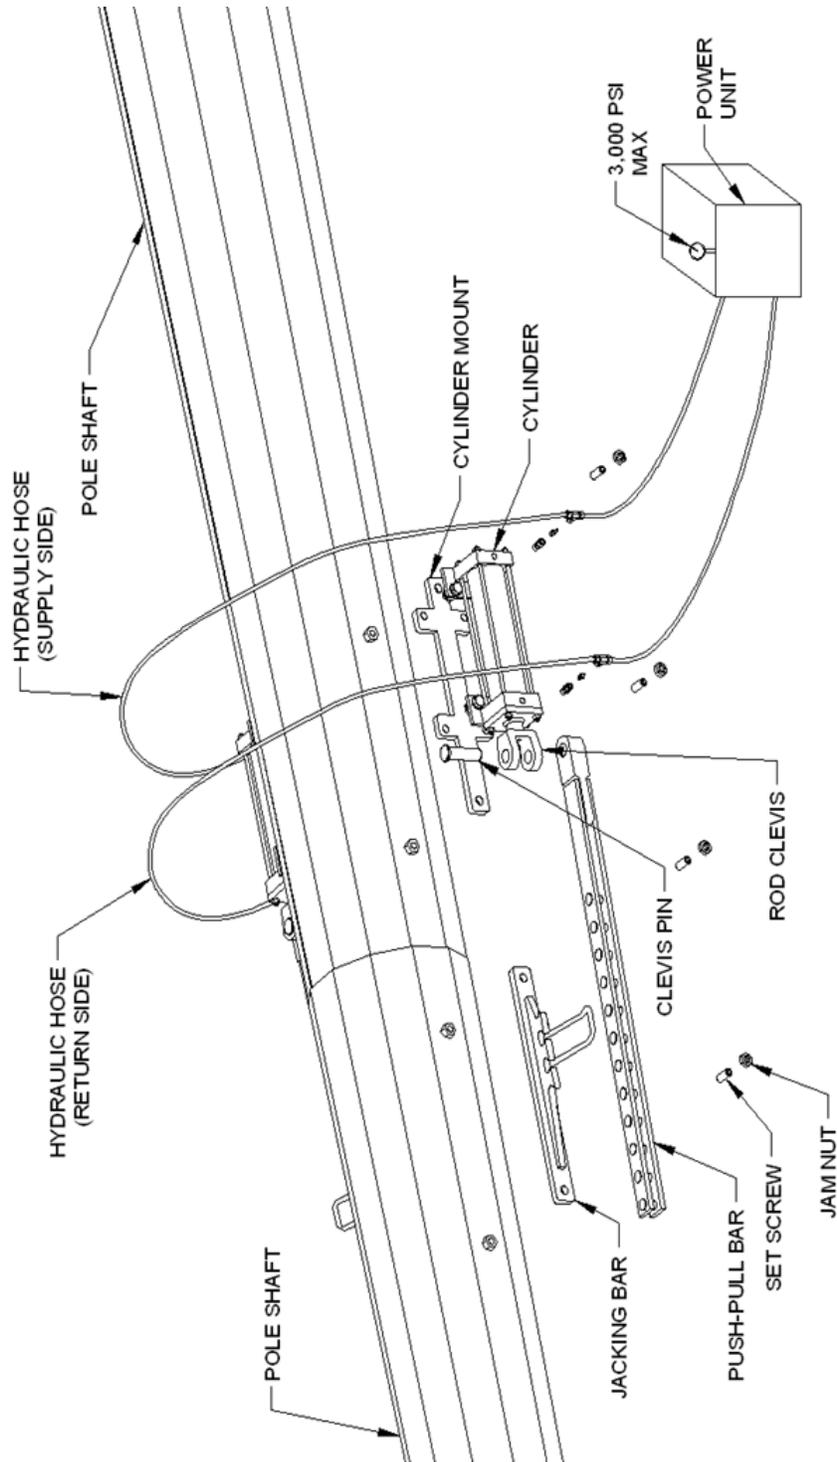

Figure 3: Jacking Device
2.2.3.2 Use of a hydraulic jacking device (Figure 3). These devices are available for rent or purchase from Valmont. Other sources such as contractors or electric utilities may have hydraulic jacking devices available. These devices have proved to be very useful for making sound, high quality joints. These devices generally have a large capacity (up to 90,000 pounds) to ensure proper seating of the sections even if the sections are slightly out of round or not aligned precisely. For these reasons, Valmont recommends the use of such a device for